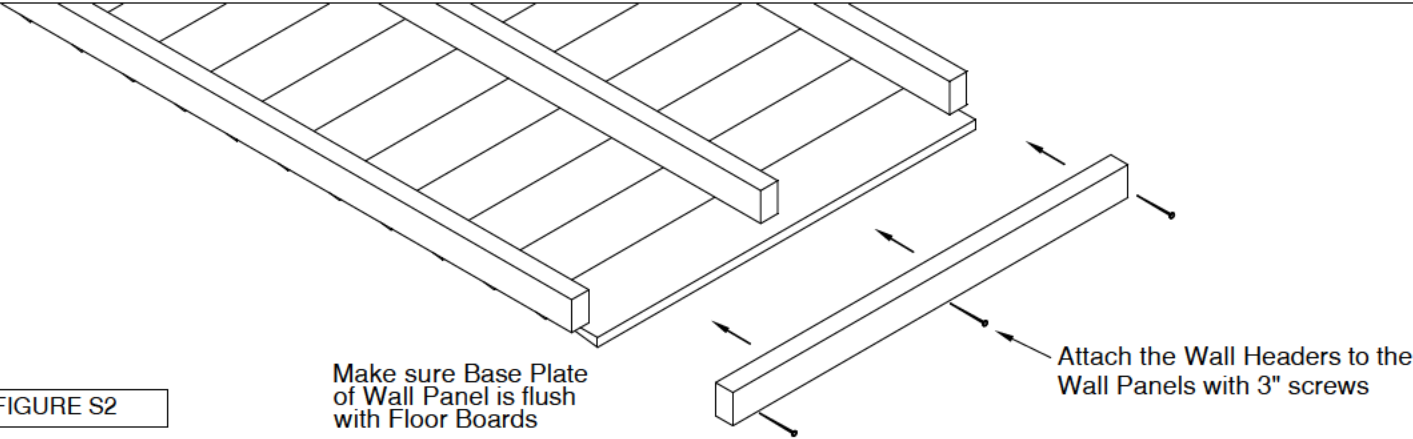

FIGURE S2
- Attach 2" x 3" Wall Headers to the 4 solid wall panels that do not have one with 3 - 3" screws as shown (FIGURE S2).